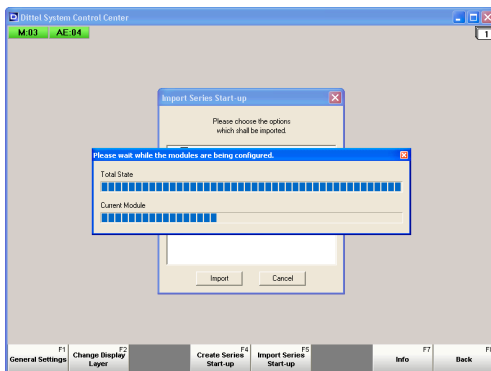

Figure 9-32
- ▷ If the Modules were **NOT** found by the automation system or computer import only the **PC Settings** (and the **User-defined Function Bar** and **Display Layers**, if selected) by clicking on the key [Import] or pressing the [Enter] key. The PC settings are imported (see figure 9-32).